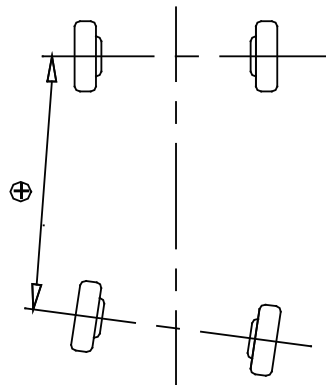

Figure 1.7
- Wheelbase difference is defined as the angle between the joint line of the centre of two rear wheels and that of the front wheels. It is positive when distance between the centre of the right wheels is large than that of left wheels; and negative otherwise. If the tread is available from the vehicle specifications, then the wheelbase difference can be also expressed by angle. See Figure. 1.7.